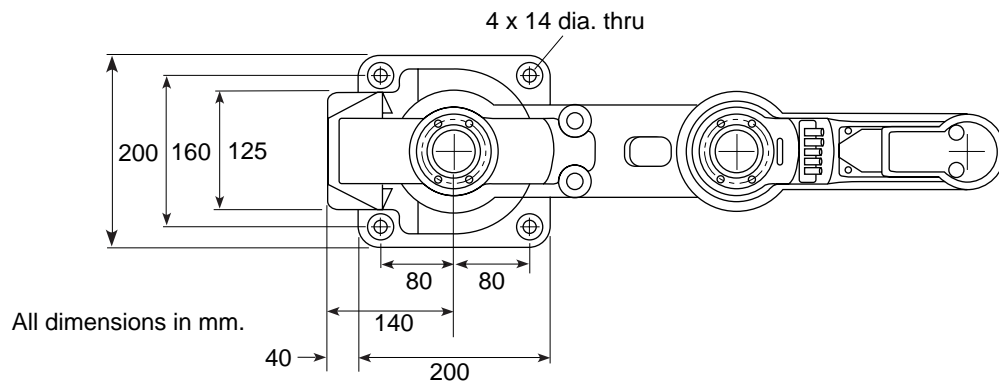

Figure 4-1. Mounting Hole Pattern (Robot-to-Mounting Surface)
The Adept 550 is designed to be mounted on a smooth, flat, level tabletop. The mounting structure must be rigid enough to prevent vibration and flexing during robot operation. Excessive vibration or mounting flexure will degrade robot performance. Figure 4-1 shows the mounting hole pattern for the Adept 550.
1. Using the dimensions shown in Figure 4-1, drill and tap the surface for four 7/16 - 14 UNC x 1.50" or a metric size of M12 - 1.75 x 36mm machine bolts (bolts not provided). See Table 4-1 for bolt and torque specifications.